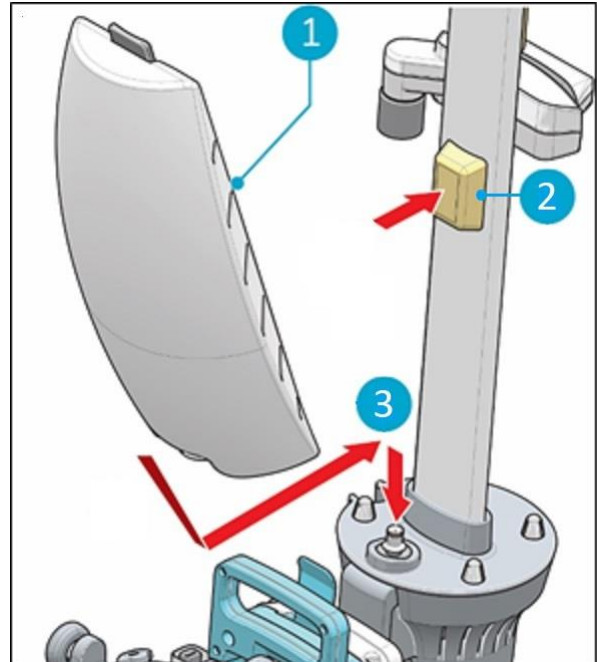

Figure 11
1. Put the tank (Figure 11, pos 1) on the i-mop® Lite with the valve first.
2. Press the tank downward on the nipple (Figure 11, pos 3) to break the valve seal.
3. Push the tank in place, the magnet (Figure 11, pos 2) will lock the solution tank in place.